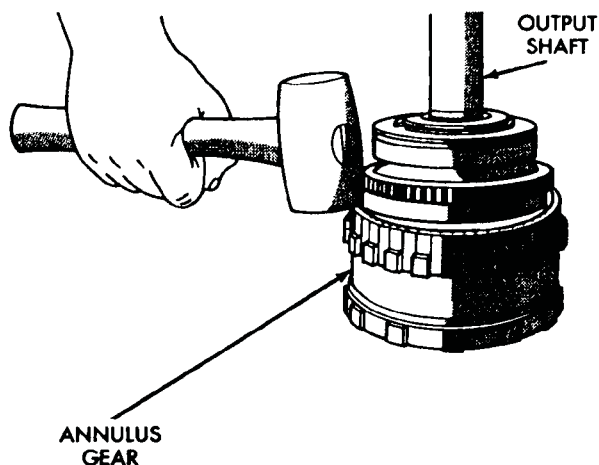

Fig. 33 Annulus Gear Removal
(23) Remove annulus gear from output shaft (Fig. 33). Use rawhide or plastic mallet to tap gear off shaft.
(24) Remove output shaft front bearing if not previously removed.